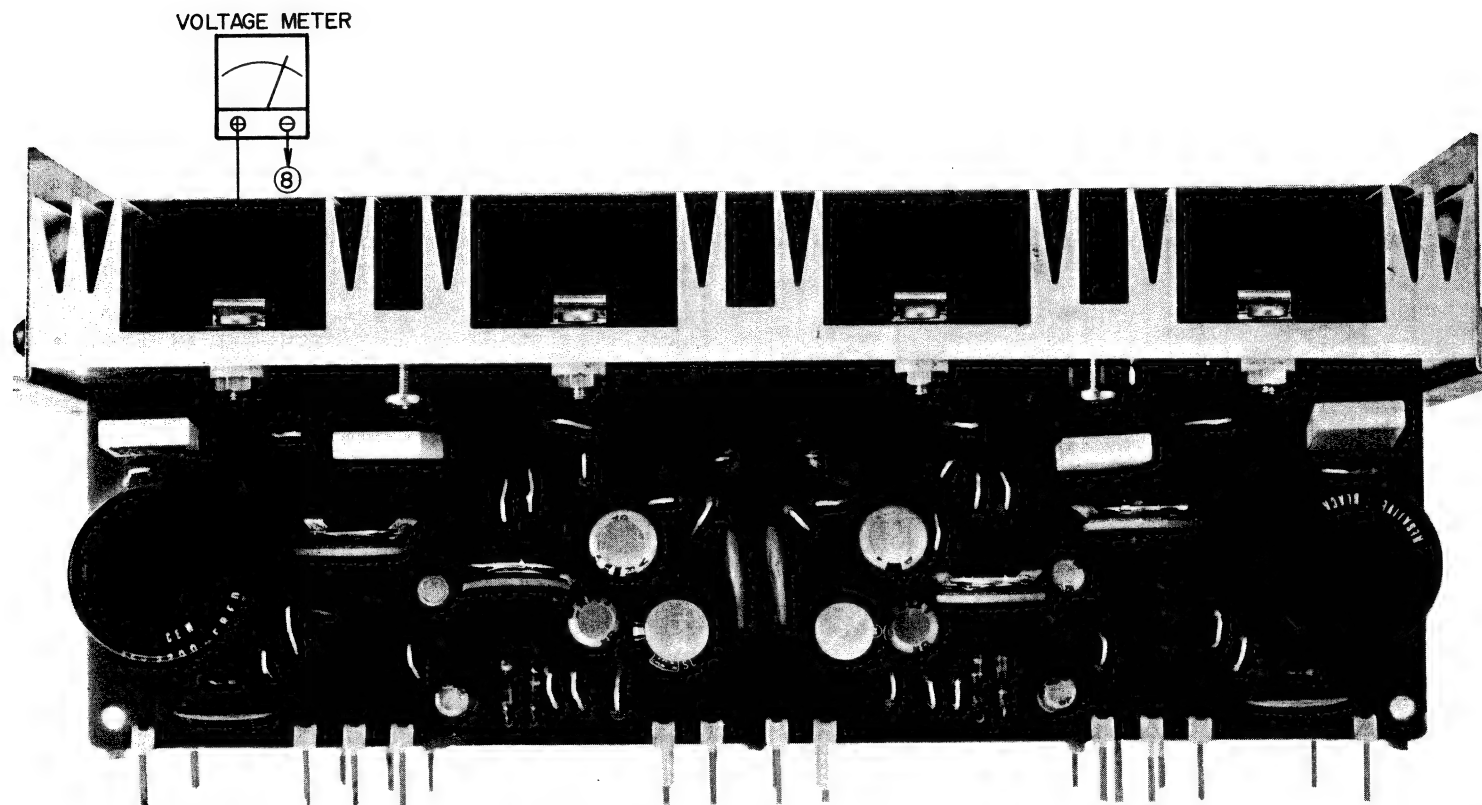

Fig. 19
- 3) Adjust Power Amp. P.C. Board semi-fixed resistor VR2 100B shown in Fig. 19 to obtain an Ampere Meter indication of 40 mA.
- 1) Connect Voltage Meter to Power Amp. P.C. Board TR6 Collector and terminal 8 shown in Fig. 19.
- 2) Adjust Power Amp. P.C. Board semi-fixed resistor VR1 30 kB shown in Fig. 19 so that the Voltage Meter indication is 1/2 of the supply voltage value.